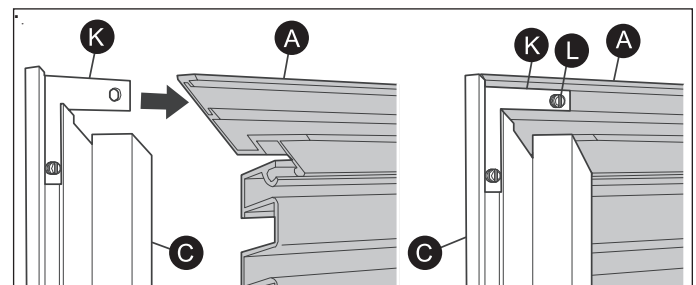

Figure 2-14.
5. Join each side trim (B and C) to the top trim (A). Make sure the ends of the Grill Assembly are captured in the channel of each side trim, then tape in place. Gently secure brackets (K) to top trim (A) by tightening set screws (L) only until snug to avoid dimpling the trim face. DO NOT overtighten. (See Figure 2-14).